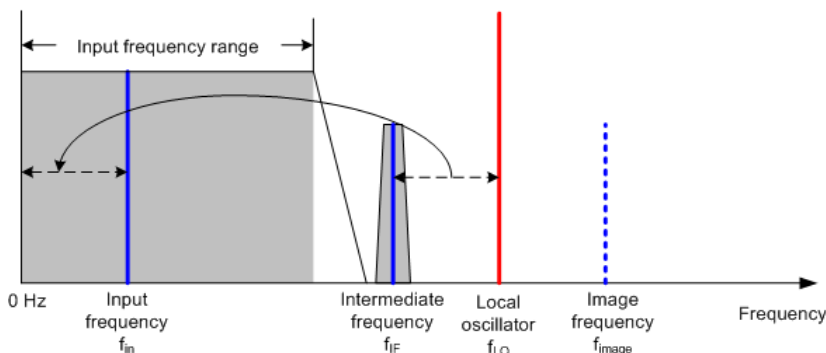

Figure 12-3: Mixing process
The mixer converts the RF signal to a fixed intermediate frequency (IF). This process usually involves several stages. It lasts until you get an IF for which good narrowband filters are available. The R&S ZVH needs three mixing stages to get an IF that the filter can handle. Figure 12-3 graphically shows the mixing process.